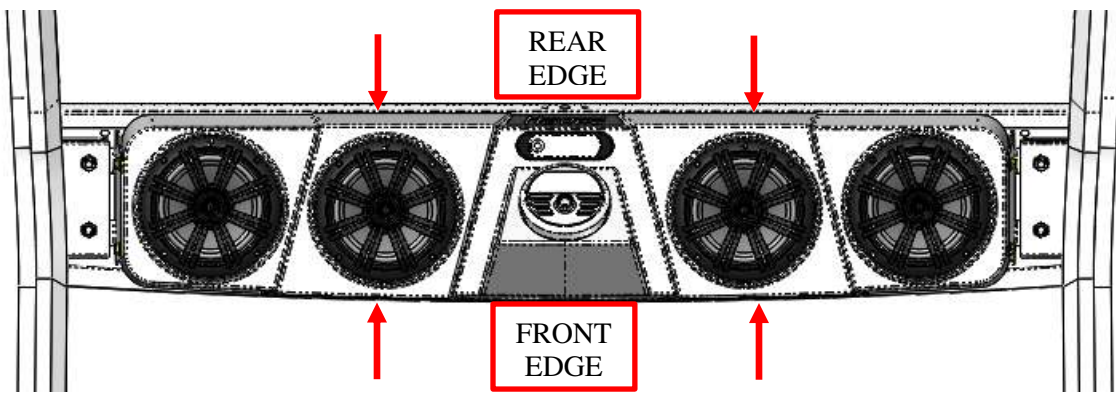

Figure 11: Audio Mini centered between visor edges.
7. Tighten the 4 visor bolts so that the *Audio Mini* is centered between the front and rear edge of the visor. See Figure 11.